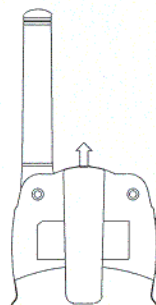

Figure 3.
2. While pulling the BELT CLIP LATCH, push up on the BELT CLIP to remove it from the unit, as shown in Figure 3.